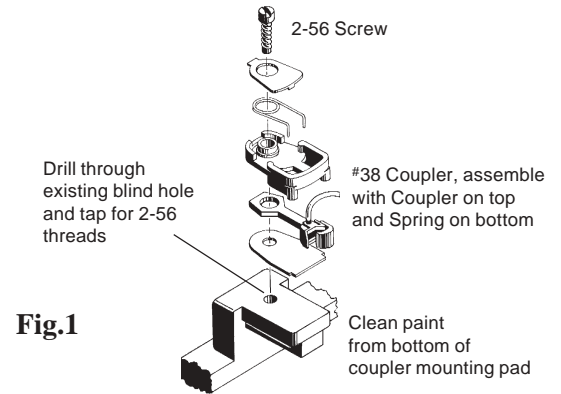

Fig.1
3. Assemble the #38 Coupler with coupler on top and Torsion Spring on bottom as shown in Fig.1. Install coupler, align and secure with a 2-56 screw.